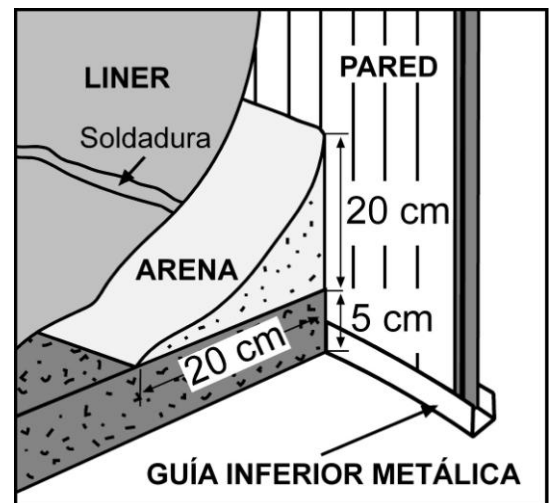

fig. 20
**Important:** Once the floor cover or the sand layer have been put down, put more clean sand (without any stone or strange objects) creating a triangular chock of 20 cm. base and 20 cm height. In this way we'll avoid the water pressure damage or slide the liner under the wall, and the water forces will be distributed uniformly (fig. 20). Before installing the liner, we recommend to put a plastic sheeting between the sand and the liner, to give more protection to the liner.